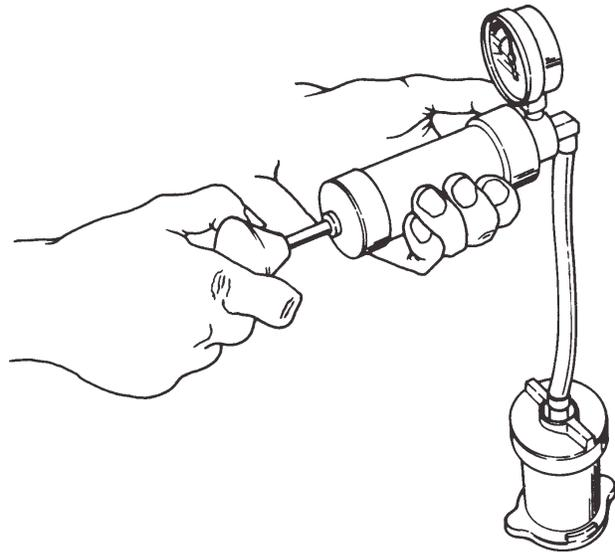

Figure 1-9. Pressure Cap Test.
5. Hold Tester with gage facing you as shown in Figure 1-9.
**(Figures 1-9 & 1-10)**
Stop pumping when the valve opens and read the gage (See Figure 1-9) as follows: The gage hand must be within the proper color band for